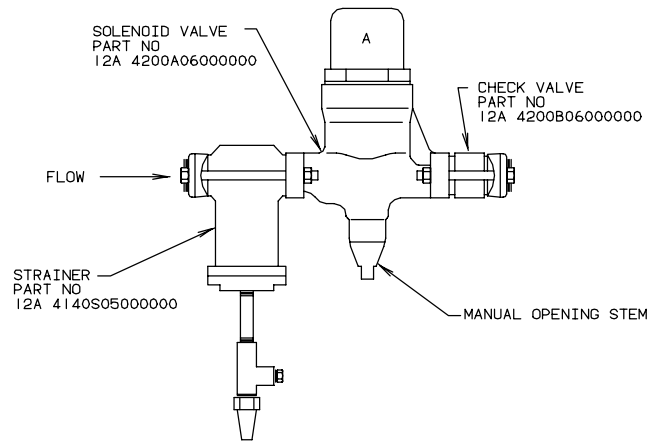

FIGURE 9-8
The **Liquid Feed Solenoid Valve** (20), Figure 9-8, is opened and closed during the freezer cycle by the float switch #10, in order to maintain the proper freezer refrigerant level. It is closed when the machine is off to prevent liquid flow from the receiver to the freezer.